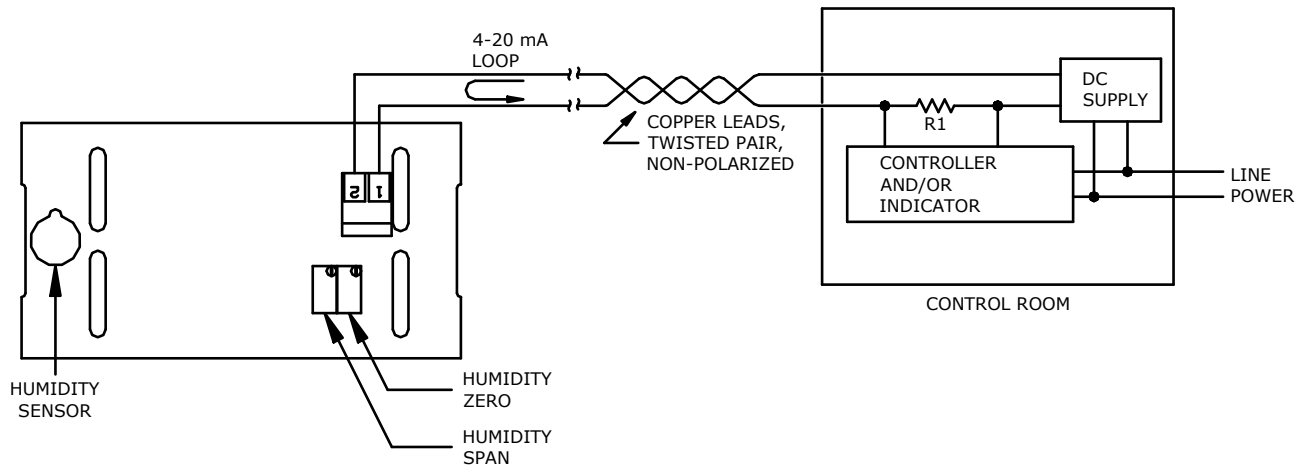

Figure 1
3. Connect power wires to the transmitter by 2 screw terminals located near the edge of the circuit board (Figures 1 and 3). Power supply must not exceed 35 VDC.